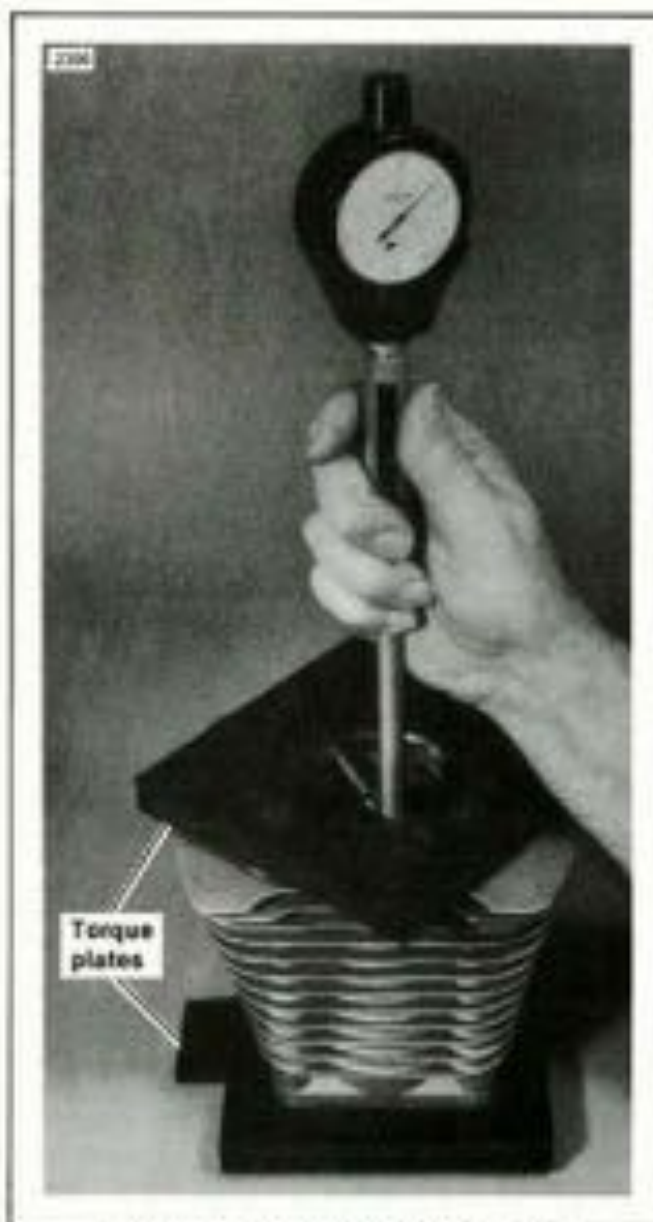

Figure 3-19. Measuring Cylinder Bore
- See Figure 3-19. Before measuring the cylinder bore, make sure the gasket surfaces are free of burrs and install a head and base gasket and the CYLINDER TORQUE PLATES, Part No. HD-33446. Tighten the bolts to 26 ft-lbs torque. This will simulate engine operating conditions. Your measurements will vary as much as .001 in. if you don't use the torque plates.